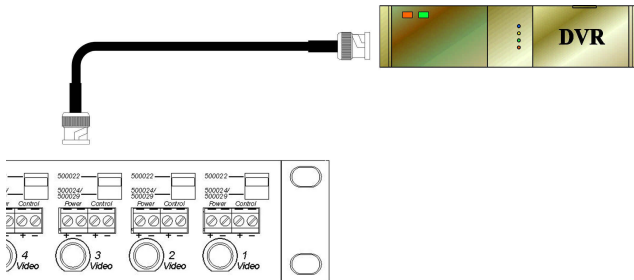

Figure 7: Video connection
6. In order to transmit video on one (1) twisted pair and remote power on three (3) twisted pairs, set the port switch to Power-Thru Mode (500024/500029) using a small flathead screwdriver (fig 7). Ensure that there is a CCTV Power-Thru Balun (500024 or 500029) at the camera.